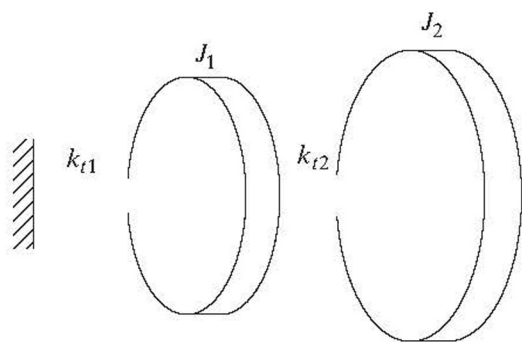

FIGURE 5.38
**5.36** Determine the natural frequencies and normal modes of the torsional system shown in Fig. 5.38 for  $k_{t2} = 2k_{t1}$  and  $J_2 = 2J_1$ .